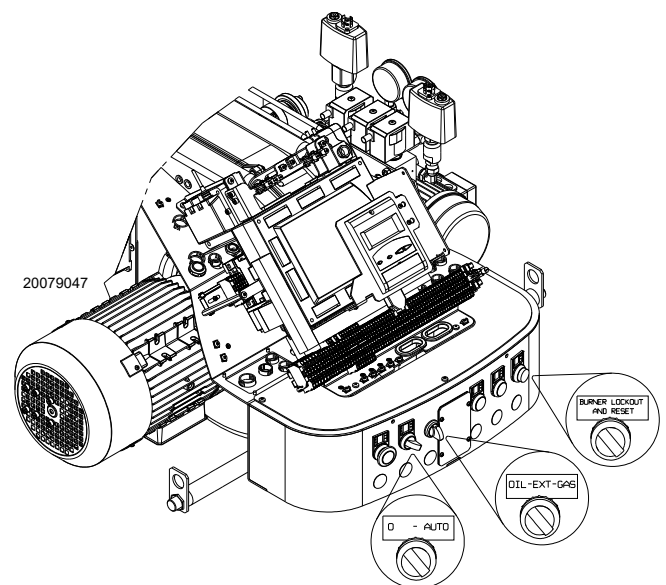

Fig. 32
Position the selector "OIL-EXT-GAS" (Fig. 32 on page 35) on "OIL" to select the light oil fuel.
Close the thermostats/pressure switches and set the switch of Fig. 32 on page 35 to "AUTO".
- put the switch of Fig. 32 to "0" and wait until the control box carries out the switching off phase;
Close the remote controls and position the selector (Fig. 32 on page 35) on "ON".
Put the selector (Fig. 32 on page 35) on "GAS" to select gas as the fuel.
- 1 with selector (Fig. 32 on page 35);
Positioning the selector (Fig. 32 on page 35) to "EXT" activates the remote selection of the fuel. In this position, if there is no remote selector, the display shows the priority fuel.